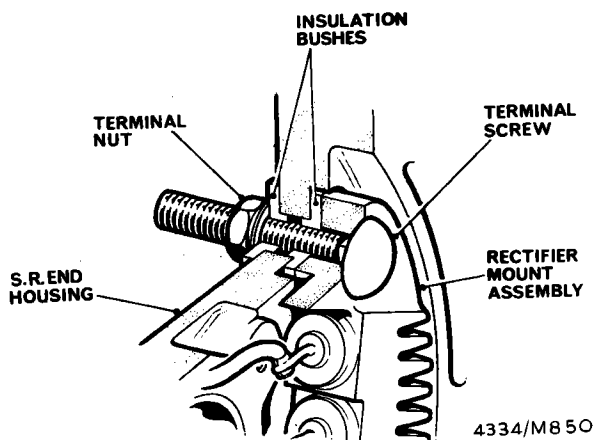

Fig. 38 Section through slip-ring end housing showing terminal insulation
4. Fit the new rectifier assembly, ensuring it is of the same polarity, and that both the ceramic insulators and fibre washers are in their correct relative positions. (See Fig. 38 and 39).